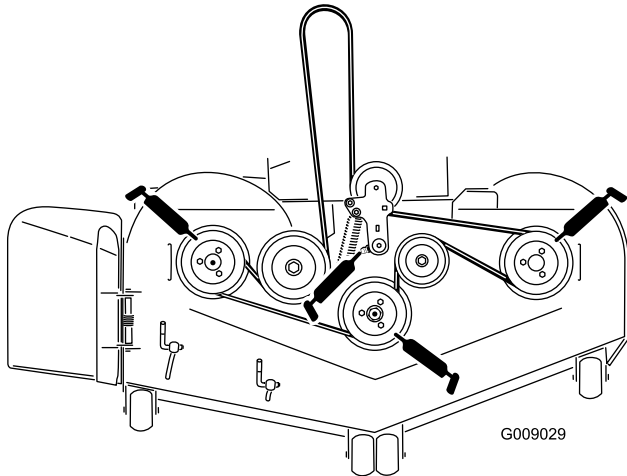

Figure 40
3. Grease the mower deck idler pulley pivot until grease come out the bottom (Figure 40).
4. Grease the fittings on the side of the 3 spindle bearings until grease come out the bottom (Figure 40).
5. Grease the drive belt idler arm (Figure 40).